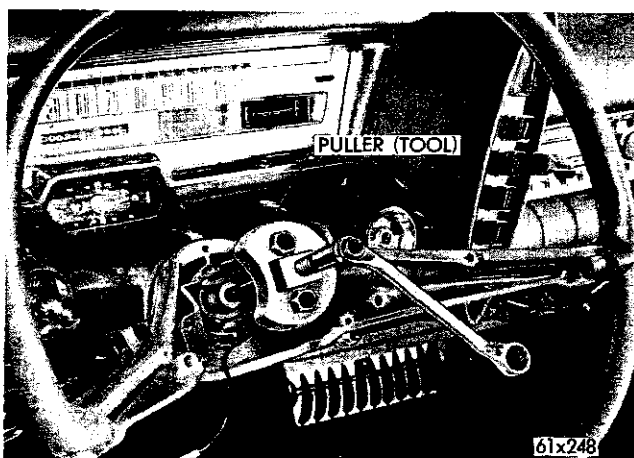

Fig. 21—Removing the Steering Wheel
(11) Loosen the steering wheel nut several turns and install the steering wheel puller Tool C-3428 (Fig. 21) and remove the steering wheel nut and the steering wheel.